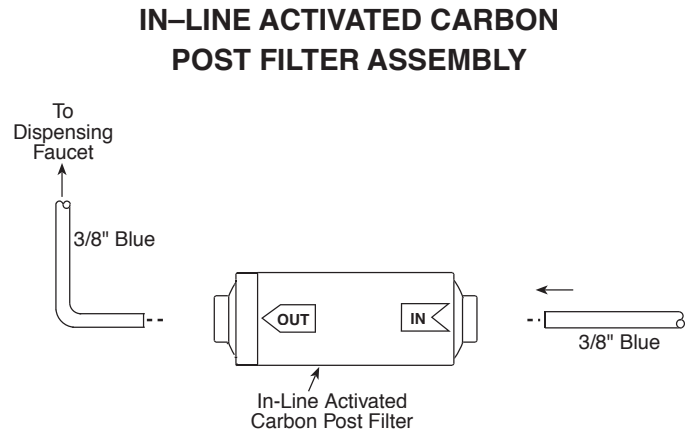

Figure 5
4. Firmly reconnect the polytubes to the new Post Filter. (Refer to Fig. 5)